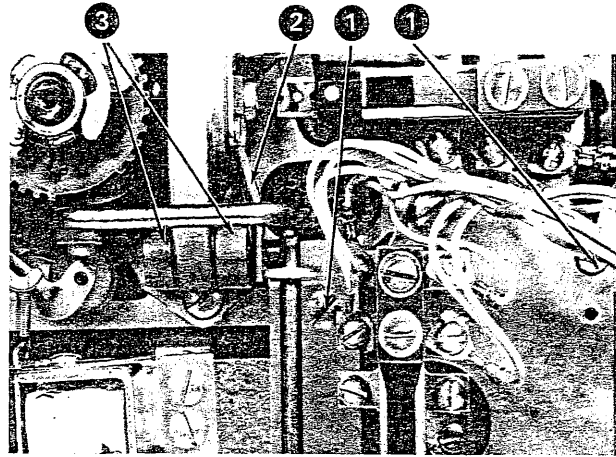

Figure 4-41. Shift-Arm Removal (Steps 2-4)
2. Remove the shift-contact assembly (No. 1, Figure 4-41). (Not necessary with stamped shift arm.)
3. Remove the shift-arm brace (No. 2, Figure 4-41). (Not necessary with stamped shift arm.)
4. Loosen the setscrews that hold the shift-arm pivot (No. 3, Figure 4-41).